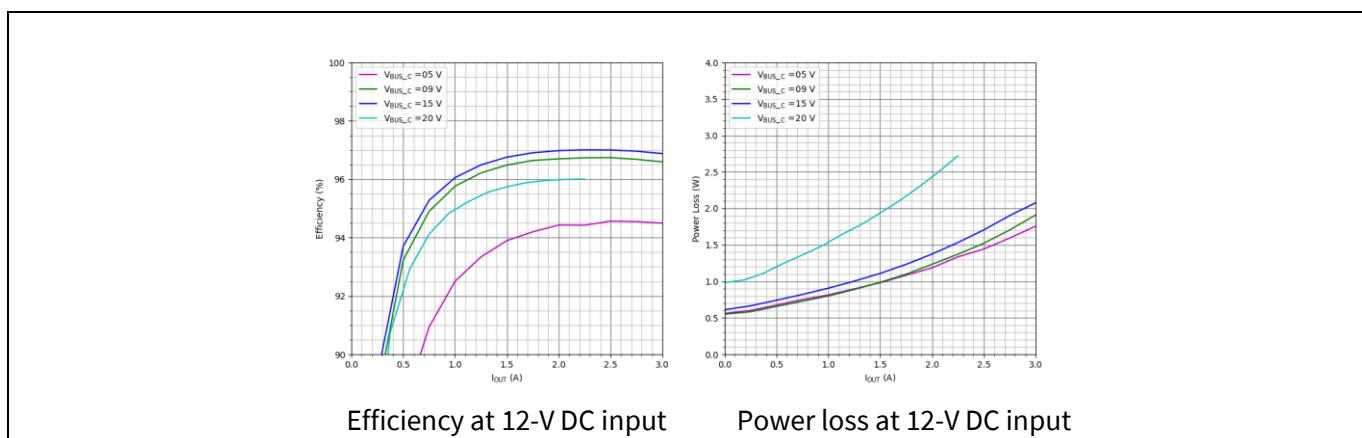

Figure 6 Efficiency and power losses at 12-V DC input
- Efficiency, losses at 12-V DC input, Port #0 and Port #1 V_{BUS_C} 5 V, 09 V, 15 V, 20 V are shown in Figure 6.